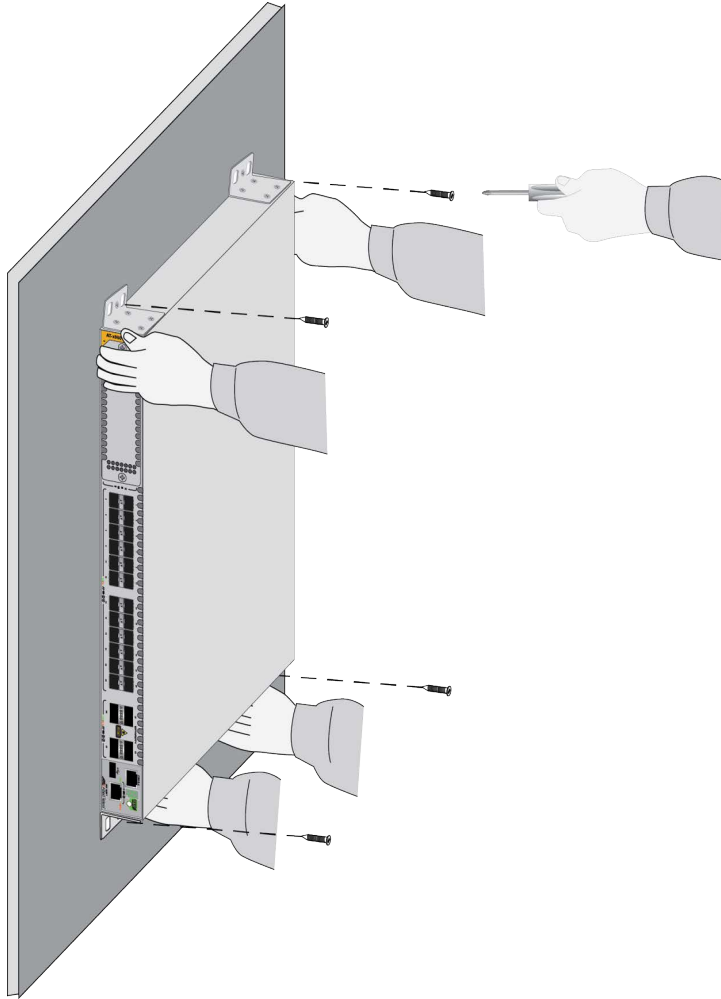

Figure 100. Installing the Switch on a Concrete Wall
7. Have two people hold the switch at the selected wall location while you secure it to the wall with the four provided screws. Refer to Figure 100.